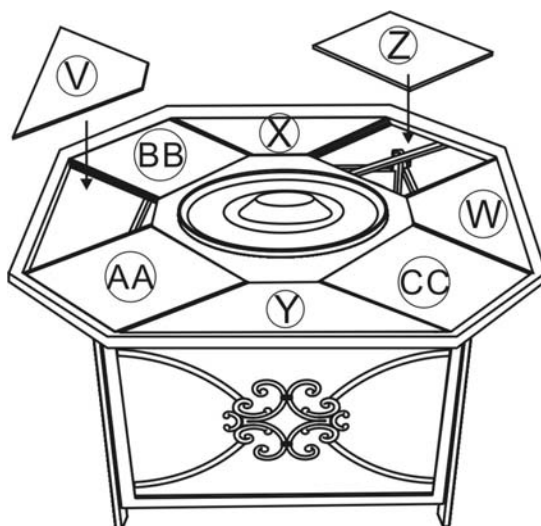

Figure 11
11. Note the clear bumpers spaced evenly throughout the inside of the table top. Carefully place the tiles inside the table top, resting on the clear bumpers as shown in Figure 11.